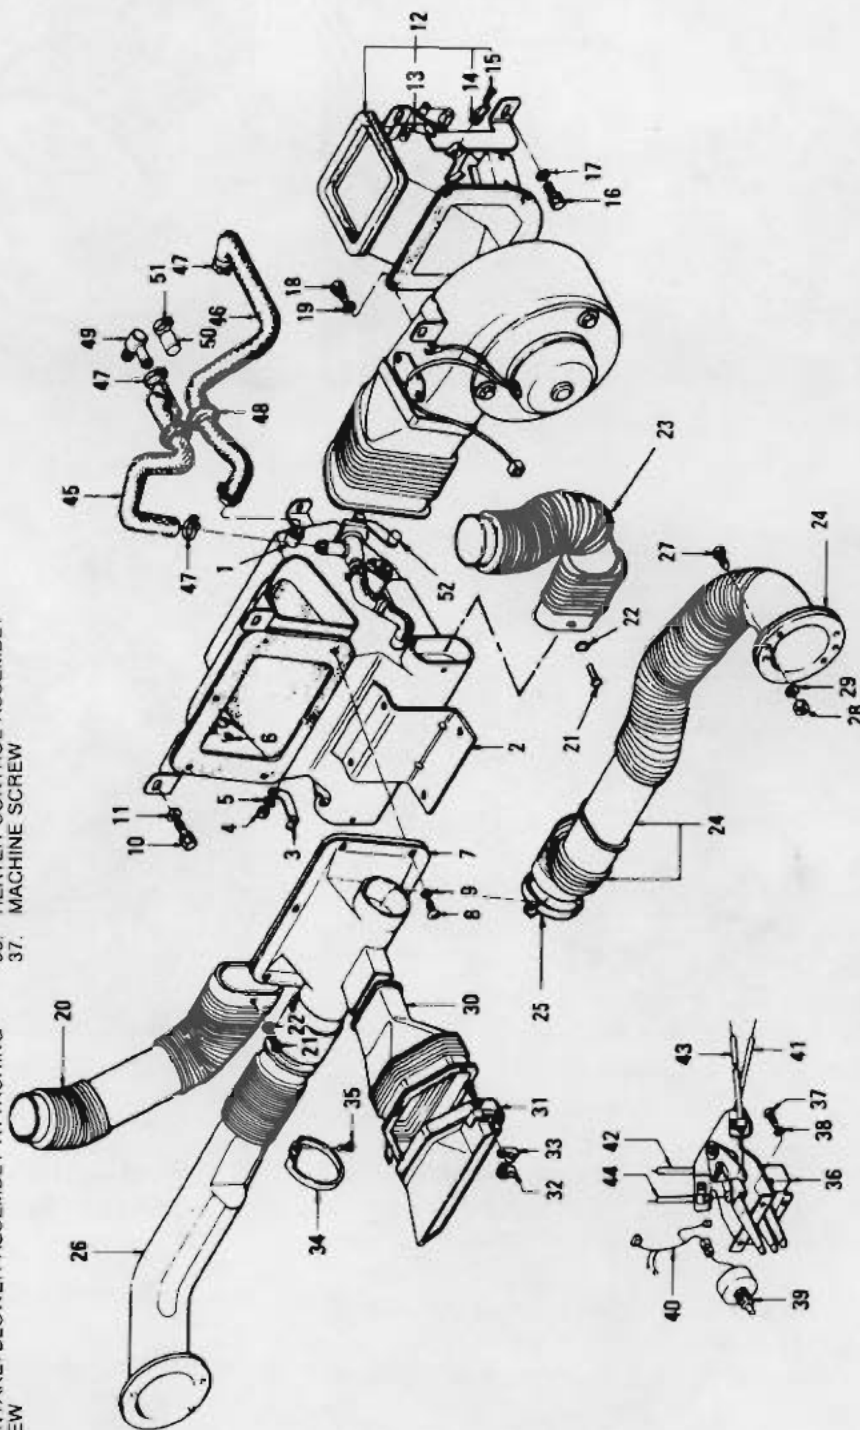

Figure III-2. Heat and Ventilating System (Exploded View)
finisher attachments. Though not a requirement, prior removal of the glove compartment door and liner, as described in Section IV, Paragraph A, will assist visibility and give better access to heat and ventilating system, and other panel components. A complete breakdown of major HVS components and attaching parts is provided in Figure III-2.
- a. Loosen the left- and right-hand ventilator duct clamps (see Figure III-2, Items 25 and 34), and move the ducts away from the ventilator assembly.
3. The heater unit is now exposed and can be detached from the mounting points after removing the two attaching screws (see Figure III-2, Item 21) which secure the defroster ducts to the lower heater unit. With the screws removed, slide the defroster ducts out of the way.
ing flanges are clearly shown in Figure III-2. Remove the six attaching screws, Item 10.